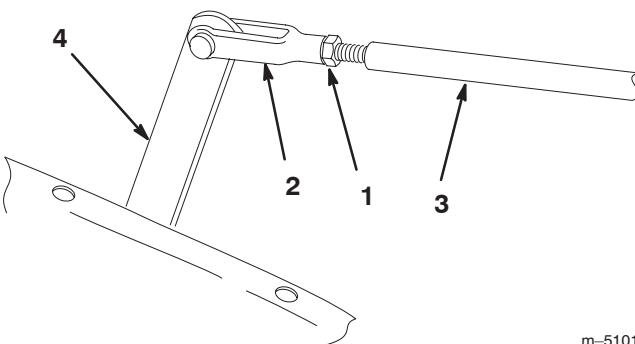

Figure 46
3. Move the adjustment lever by hand to level the mow and lift pedals and adjust the yoke on the control rod until the hole in the yoke lines up with the adjustment lever hole (Fig. 46).